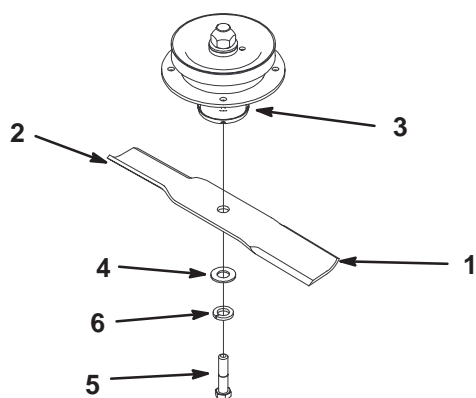
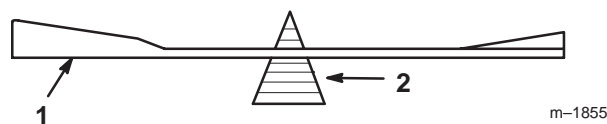

Figure 43
Figure 45
1. Hold the blade end using a rag or thickly-padded glove. Remove the blade bolt, washer, lock washer and blade from the spindle shaft (Fig. 43).
2. Check the balance of the blade by putting it on a blade balancer (Fig. 45). If the blade stays in a horizontal position, the blade is balanced and can be used. If the blade is not balanced, file some metal off the end of the sail area only (Fig. 43). Repeat this procedure until the blade is balanced.
1. Install the blade onto the spindle shaft (Fig. 43).
Important The sail part of the blade must be pointing upward, toward the inside of the mower to ensure proper cutting (Fig. 43).
2. Install the lock washer and blade bolt (Fig. 43). Torque the blade bolt to 85–110 ft-lb (115–140 N•m).